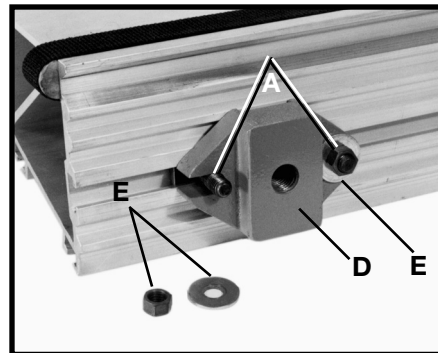

Fig. 33
2. Place mounting pad (D) Fig. 33 between two T-bolts (A) and slide T-bolts inward in slots of mounting pad (D). Fasten with two M10 flat washers and M10 hex nuts (E).